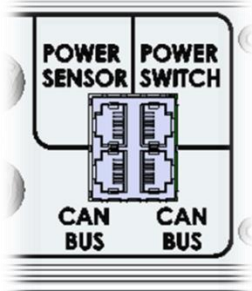

Fig. 4
Select correct port (see Fig. 4) and insert cables in RJ45 connectors labeled with the suitable port .
- 3 Connect the Power Sensor via Patch cable to the Power Storage DC at the RJ45 connector X403 "Power Sensor" (see fig. 4).